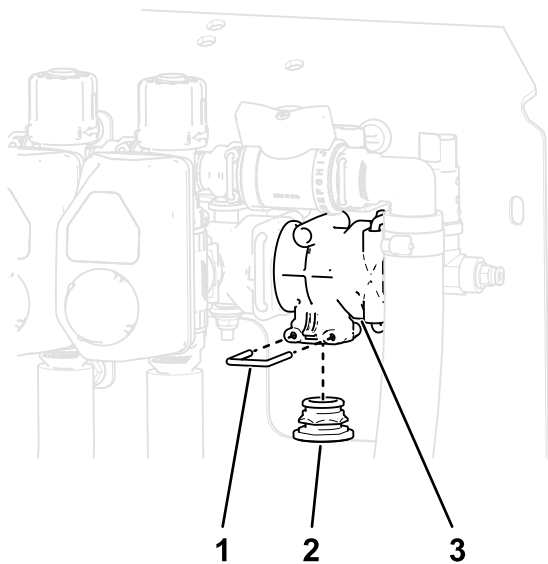

Figure 25
2. Remove the retainer that secures the bypass cap, and remove the bypass cap from the bottom of the T-manifold on the machine (Figure 25).